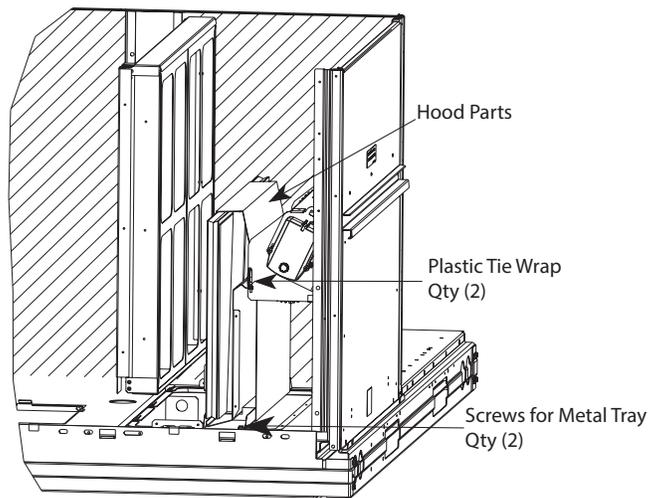

Fig. 12 — Economizer and Two-Position Damper Hood Parts Location
Locate the carton containing the outside air hood parts; refer to Fig. 12 on page 13. Do not remove carton until unit has been rigged and located in final position.
2. Locate the (2) screws holding the metal tray to the basepan and remove. Locate and cut the (2) plastic tie-wraps securing the assembly to the damper. (See Fig. 12.) Be careful to not damage any wiring or cut tie-wraps securing any wiring.